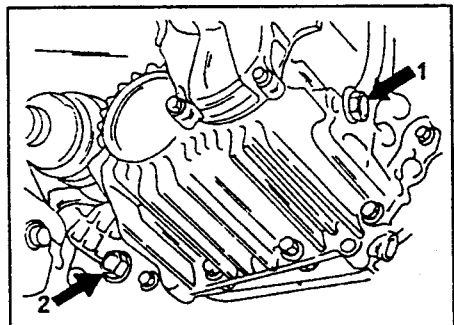

Fig. 7.10. The location of the oil filler/oil level check plug (1) and the oil drain plug (2).
To check the oil level, place the front end of the vehicle on secure chassis stands and unscrew the plug (1) in Fig. 7.10 out of the side of the transmission. Insert the fore-finger into the plug hole and try to reach the oil. If oil is missing, use a gun filled with the specified oil and top-up until the oil just runs out of the plug hole. Refit the filler plug, first checking the condition of the sealing washer, and tighten to 3.0 - 3.5 kgm (22 - 25 ft.lb.).